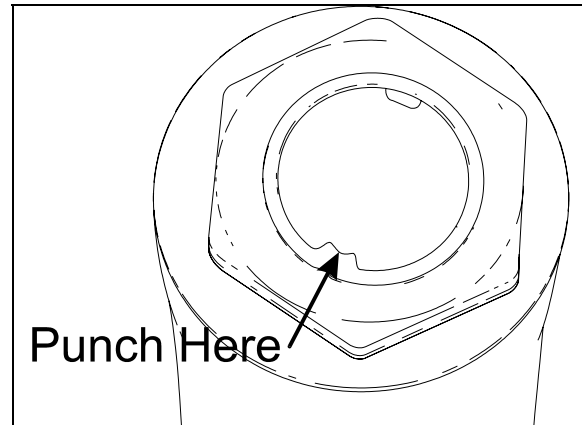

FIGURE 15: FIXING NUT PUNCH MARK 16098
3. Lock nut with sector shaft using a punch mark into the groove (refer to figure 15).